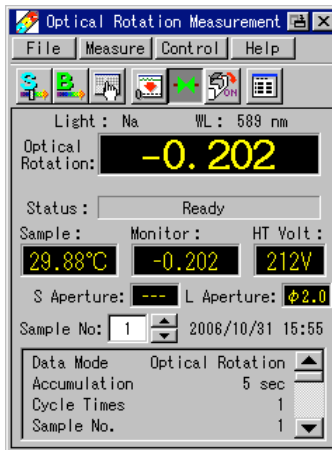
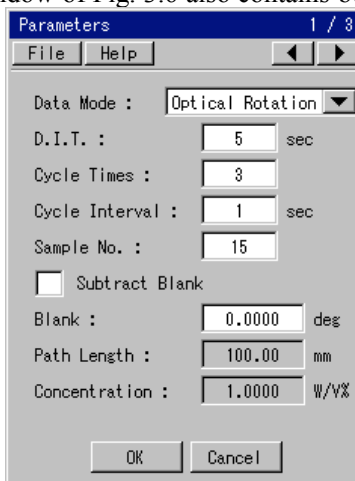

Figure 3.5 Optical rotation measurement window
Figure 3.6 P-2200 parameters window 1
- (6) For example, if the <Optical Rotation Measurement> icon is pressed, the optical rotation measurement program is activated and the optical rotation measurement window is displayed (see Fig. 3.5).
Note: This instruction manual shows the windows for V-2200 as examples. The contents of windows vary a little between instruments (see Fig. 3.6). A different explanation is given for each instrument model as required.
For example, if the  button is pressed in the window shown in Fig. 3.5, the parameters window 1 shown in Fig. 3.6 is displayed. The window of Fig. 3.6 also contains buttons.
Note 1: If the <OK> button is pressed to apply the set parameters, the display returns to the optical rotation measurement window (see Fig. 3.5). If the <Cancel> button is pressed to cancel the set parameters, the display returns to the optical rotation measurement window (see Fig. 3.5).
Press the <OK> button in the parameters window (see Fig. 3.7) to finish editing parameters and to return to the window shown in Fig. 3.5.